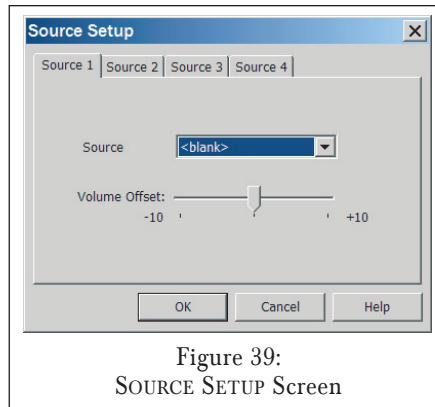

Figure 39:
1. Open the DEVICE menu and select SOURCE SETUP. The SOURCE SETUP screen (Figure 39) will appear.
- The Zone 1 programming screen will include one set of VOLUME UP/DOWN, MUTE and ZONE OFF buttons and four sets of ZONE SOURCE CONTROL and NUMERIC KEYPAD buttons (one for each source). The source names you selected on the SOURCE SETUP screen (see *Figure 39*, on page 30) will appear on the four SOURCE buttons.